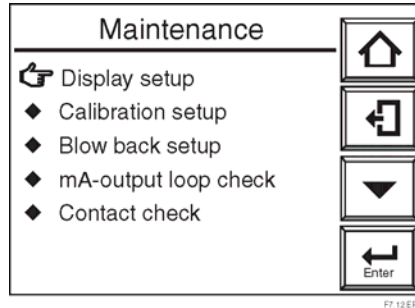

Figure 7-14 Maintenance Panel Display
2. Select Display setup from the Maintenance panel display screen (Figure 7-14).